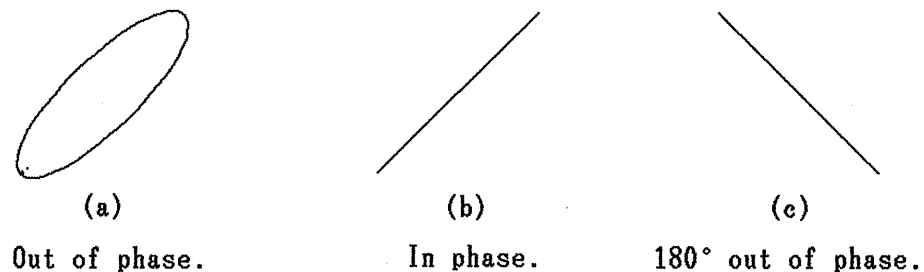

Figure 4-4
- 2) Press the ⑭ **YE**, ⑪ **SET** (MONO) keys to set output level 3.00Vp-p (internal modulation generator 1kHz, monophonic modulation level 100%).
- 3) Press the ⑭ **YE**, ⑪ **100%** (RIGHT) keys to set stereo modulation level 90% ⑩ pilot level 10%.
- 4) If the internal modulation generator is not at 1kHz, press the ⑫ **1kHz** key.
- 5) Press the ⑩ MODULATION FUNCTION ~~ON~~ key to turn it off and set modulation level 0%, pilot level 10%. If oscilloscope input sensitivity is set to X INPUT 200mV/DIV, Y INPUT 50mV/DIV, waveforms similar to the ones shown in Figure 4-4 appear on the oscilloscope, so rotate the ⑥ SCOPE PHASE semifixed adjuster, adjusting so a waveform like Figure 4-4 (b) is formed.